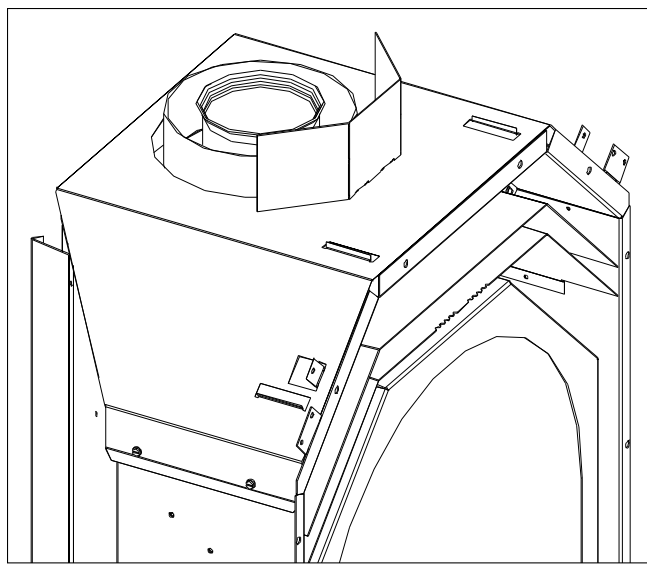

Figure 11. Vent Heat Shield Sides Bent.
2. Bend the two (2) side flaps 45° back around the vent (see Figure 11).